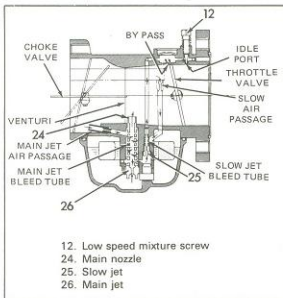

Figure 3-75. Carburetor Slow and Main System
The slow system is shown in Figure 3-75. It functions at idle, low and intermediate speeds when throttle valve is closed or only partially open. At idle, fuel enters main jet (26) and, after being metered there, enters slow jet (25) where it is metered again. The fuel from jet (25) enters bleed tube portion of slow jet where it mixes with air from slow air passage. The fuel mixture is regulated by adjusting screw (12). When throttle valve is closed, fuel mixture flows into venturi almost entirely through idle port. As throttle valve gradually opens, fuel mix discharge is transferred to bypass. Note that slow jet bleed tube is actually a part of slow jet (25).
The main system also is shown in Figure 3-75. The main system functions at intermediate and high speeds as the throttle valve opens further. The fuel is metered by main jet (26) and enters main jet bleed tube portion of main nozzle where it mixes with air entering through main jet air passage. This fuel air mixture then exits from main nozzle (24) into venturi.
The choke system, composed of choke valve and associated parts, is shown in Figure 3-75. The choke is manually set by pulling choke button out. By adjusting choke button, choke valve can be positioned either completely closed (fully choked for cold engine), partially open, or fully open (off for warm engine).